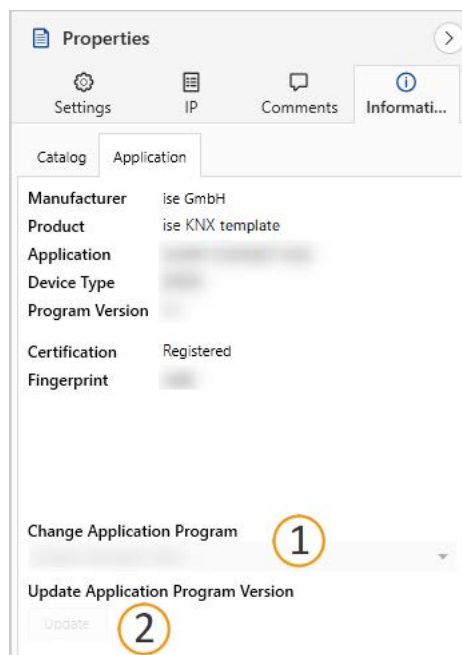

Figure 6: Updating the application program
5. Select the <<Update>> button under the item <<Update application program version>> (see figure 6, pos. 2).
○ If you change the value under <<Change application program>> (see figure 6, pos. 1), user-defined settings such as links to group addresses will be lost.